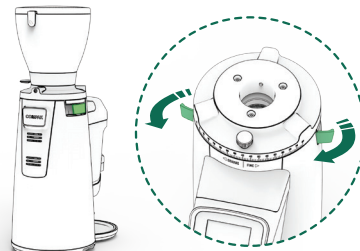

Fig. 12
12.3.8. Unlock the grinding cavity by pulling both levers situated in the top sides of the grinders (10) **(Fig. 12)**.